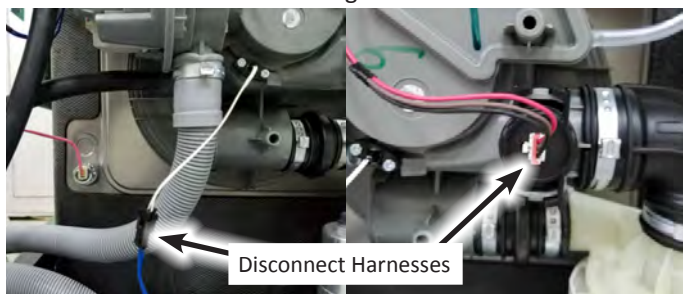

Figure 3
- Disconnect the thermistor wire harness and turbidity sensor wire harness. See Figure 3.